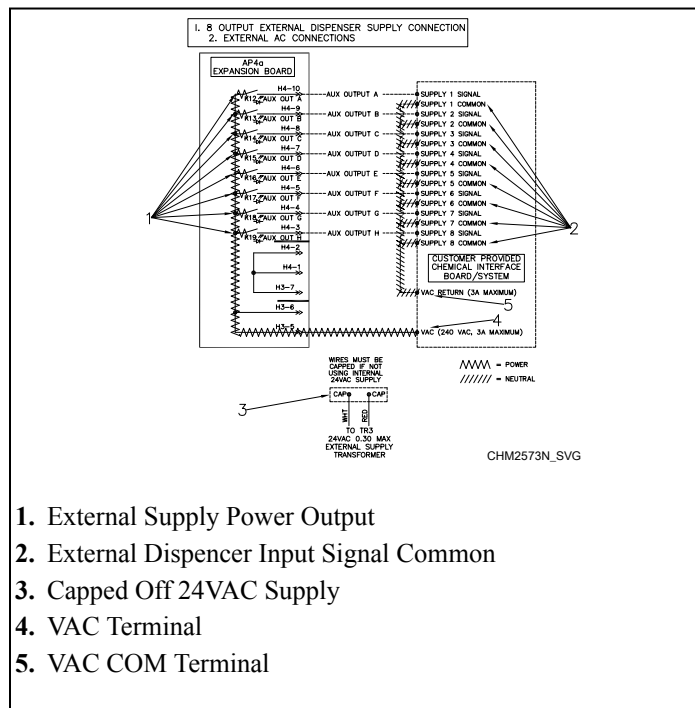
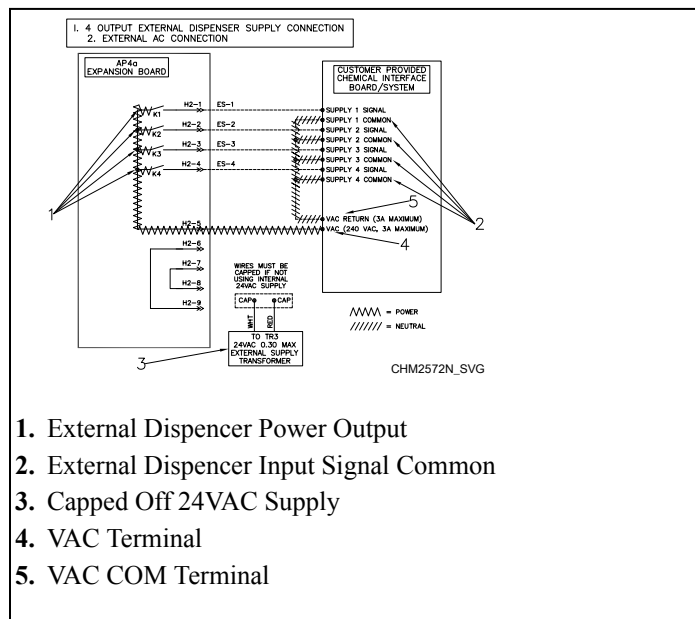

Figure 46
Figure 47
2. Connect one side of the external power to the “RELAY COM” and the other to the external dispenser input signals common. Refer to *Figure 46* and *Figure 47*.